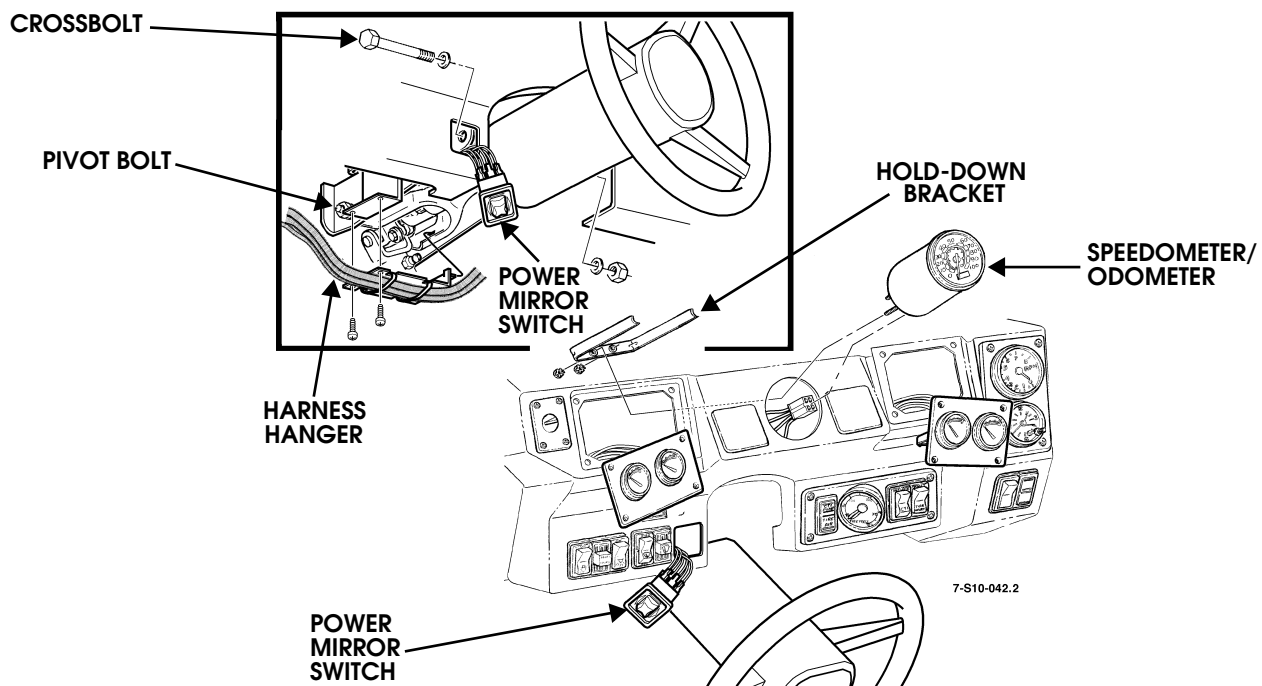

Figure 2-89: Speedometer/Odometer Replacement
1. Insert speedometer/odometer into instrument panel (Figure 2-89).